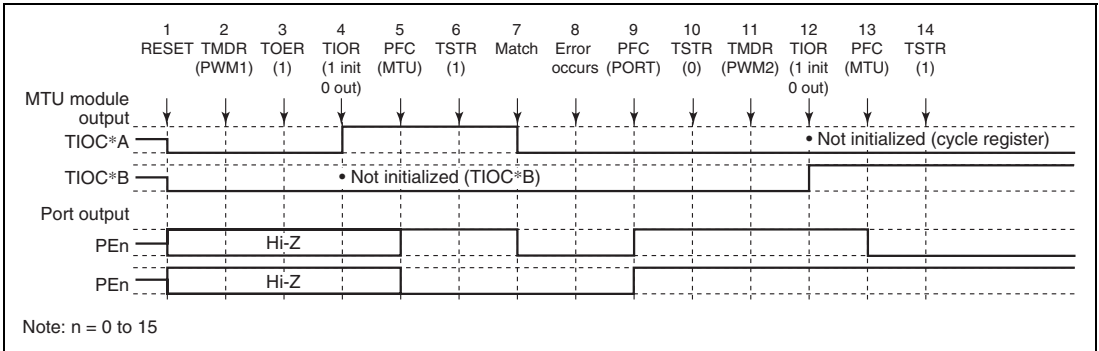

Figure 8.92 Error Occurrence in PWM Mode 1, Recovery in PWM Mode 2
(9) Operation when Error Occurs during PWM Mode 1 Operation, and Operation is Restarted in PWM Mode 2: Figure 8.92 shows an explanatory diagram of the case where an error occurs in PWM mode 1 and operation is restarted in PWM mode 2 after re-setting.